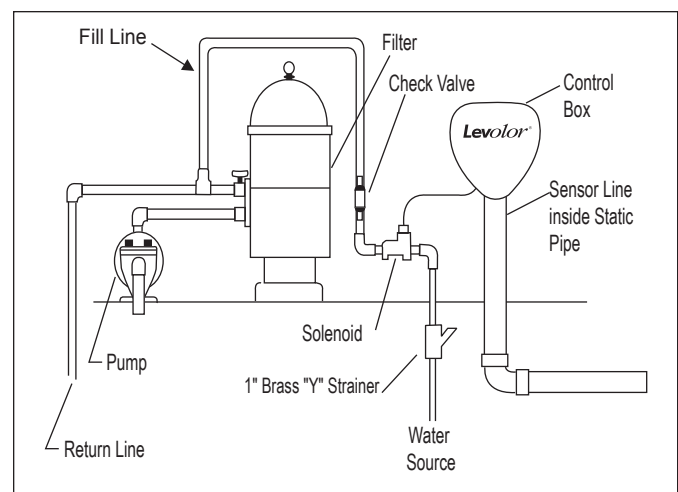

Figure 2. LX2 Installation
1. Mount the control box in the static pipe where the sensor is installed. See Figure 2.